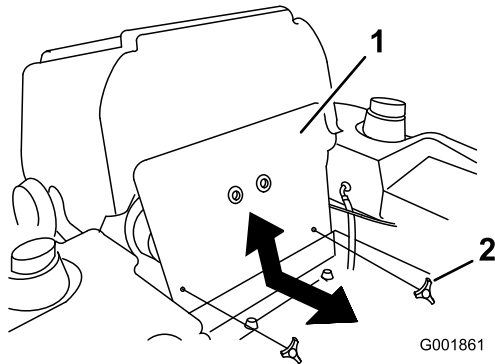

Figure 46
1. Tilt the seat forward and remove the front engine panel (Figure 46).